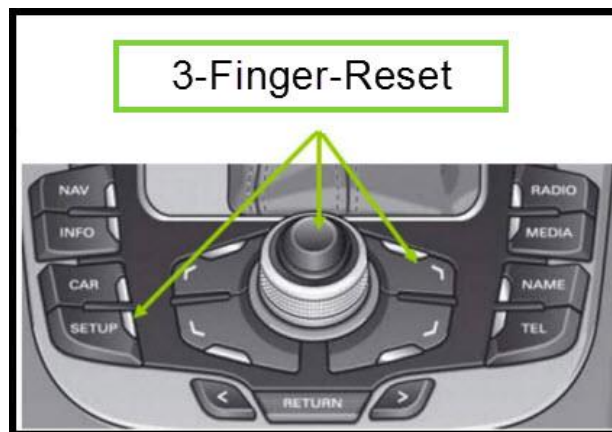

Figure 9. Three-finger reset for MMI3G.
- Perform a three-finger reset of the main unit using the MMI control panel (Figure 6, Figure 7, Figure 8, and Figure 9).